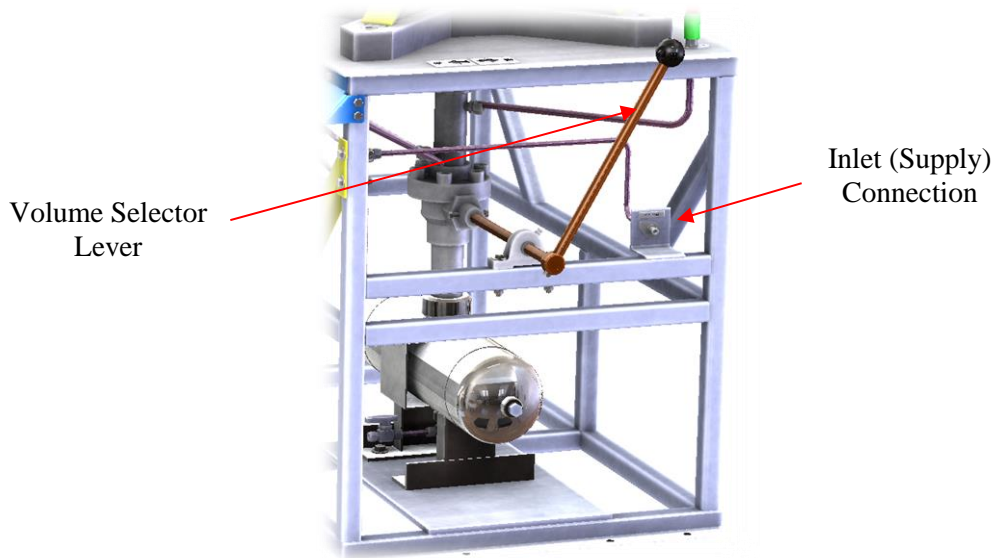

Figure 9: Right Side View
5. Connect a pressure source, either N₂ or high pressure air, controlled at no greater than 3000 psi (206.8 bar), to the inlet connection on the side of the test stand. See Figure 9.